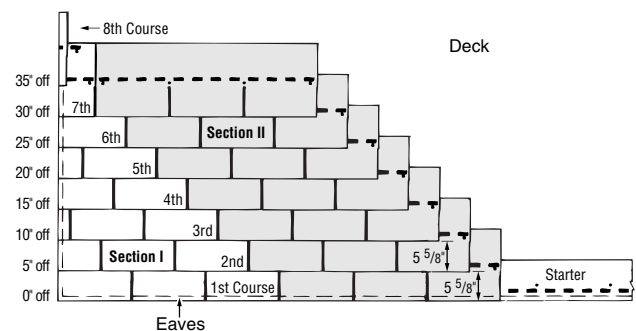

Figure 10-15: Eight-Course, Five-Inch, Stepped-Off Diagonal Method.
3. Continue with full-length starter-course shingles along the eaves. (*Figure 10-15*).
1. Begin the second course by cutting 5" off the left end of a shingle and applying the 343/8" piece over the first-course shingle, flush with the left edge of the first-course shingle, and exposing the first course 55/8" (*Figure 10-15*).
- Install "Section II" as shown in *Figure 10-15* using full shingles against the eighth courses in "Section I." This must be done before continuing with course nine. These "Section II" shingles are to be butted-up against the "Section I" shingles.